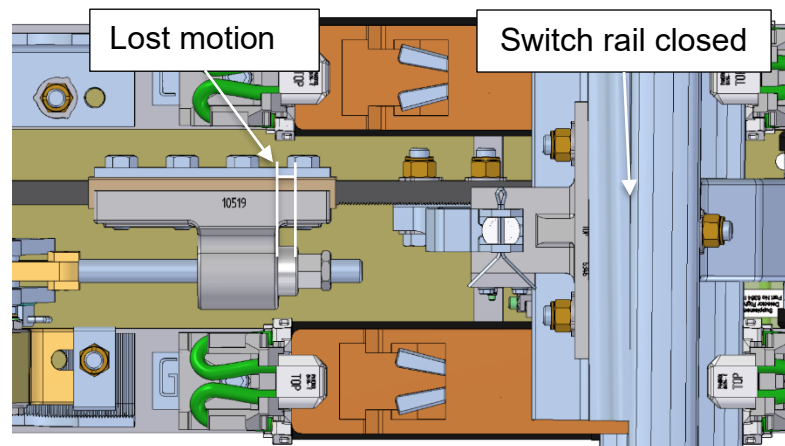

Figure 2
- c) Check that lost motion is present at all supplementary drive locations. See Figure 2.